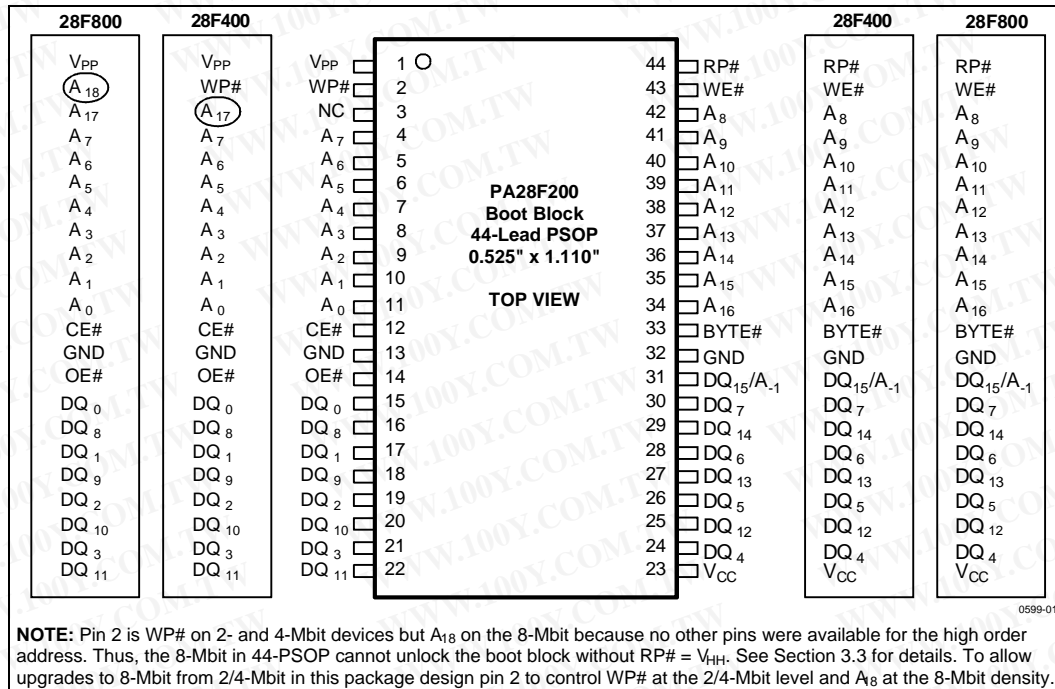
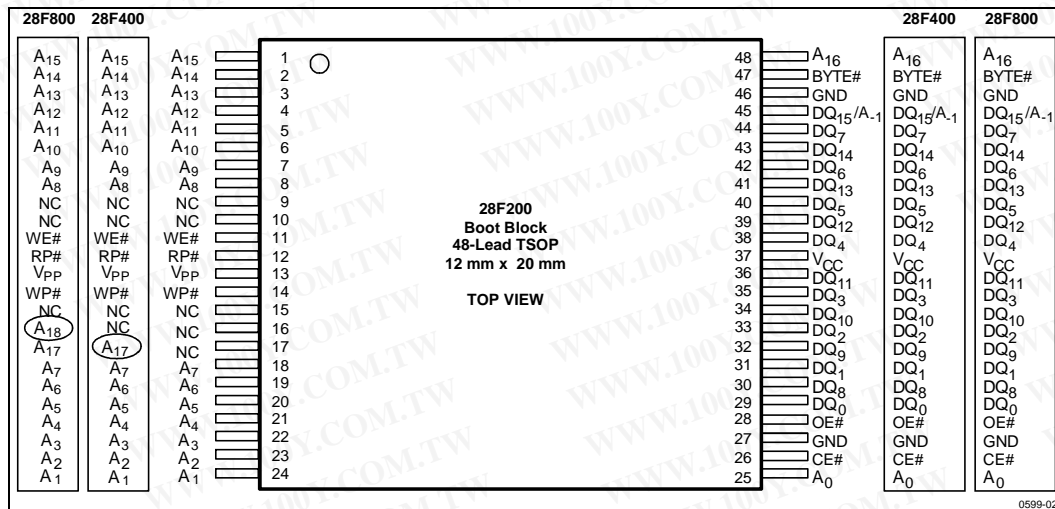

Figure 1. 44-Lead PSOP Pinout Diagram
Figure 2. 48-Lead TSOP Pinout Diagram
-002	Minor changes throughout document. Section 3.1.5 and Figure 13 redone to clarify program/erase operation abort. Information added to Table 2, Figure 1, and Section 3.3 to clarify WP# on 8-Mbit, 44-PSOP. Read and Write Waveforms changed to numbered format. Typical numbers removed from DC Characteristics and Erase/Program Timings.
-003	Minor text changes throughout document. Figure 1, 44-PSOP pinout: mistake on pin 3 on 2-Mbit pinout corrected from A ₁₇ to NC. Specs t _{EHQZ} and t _{GHQZ} improved. Explanations of program/erase abort commands reworked in Table 6, Command Codes.
These Smart 5 memory products are available in the 44-lead PSOP (Plastic Small Outline Package), which is ROM/EPROM-compatible, and the 48-lead TSOP (Thin Small Outline Package, 1.2 mm thick) as shown in Figure 1, and 2, respectively.
Intel's Smart 5 boot block architecture provides upgrade paths in each package pinout up to the 8-Mbit density. The 44-lead PSOP pinout follows the industry-standard ROM/EPROM pinout, as shown in Figure 1. Designs with space concerns should consider the 48-lead pinout shown in Figure 2.